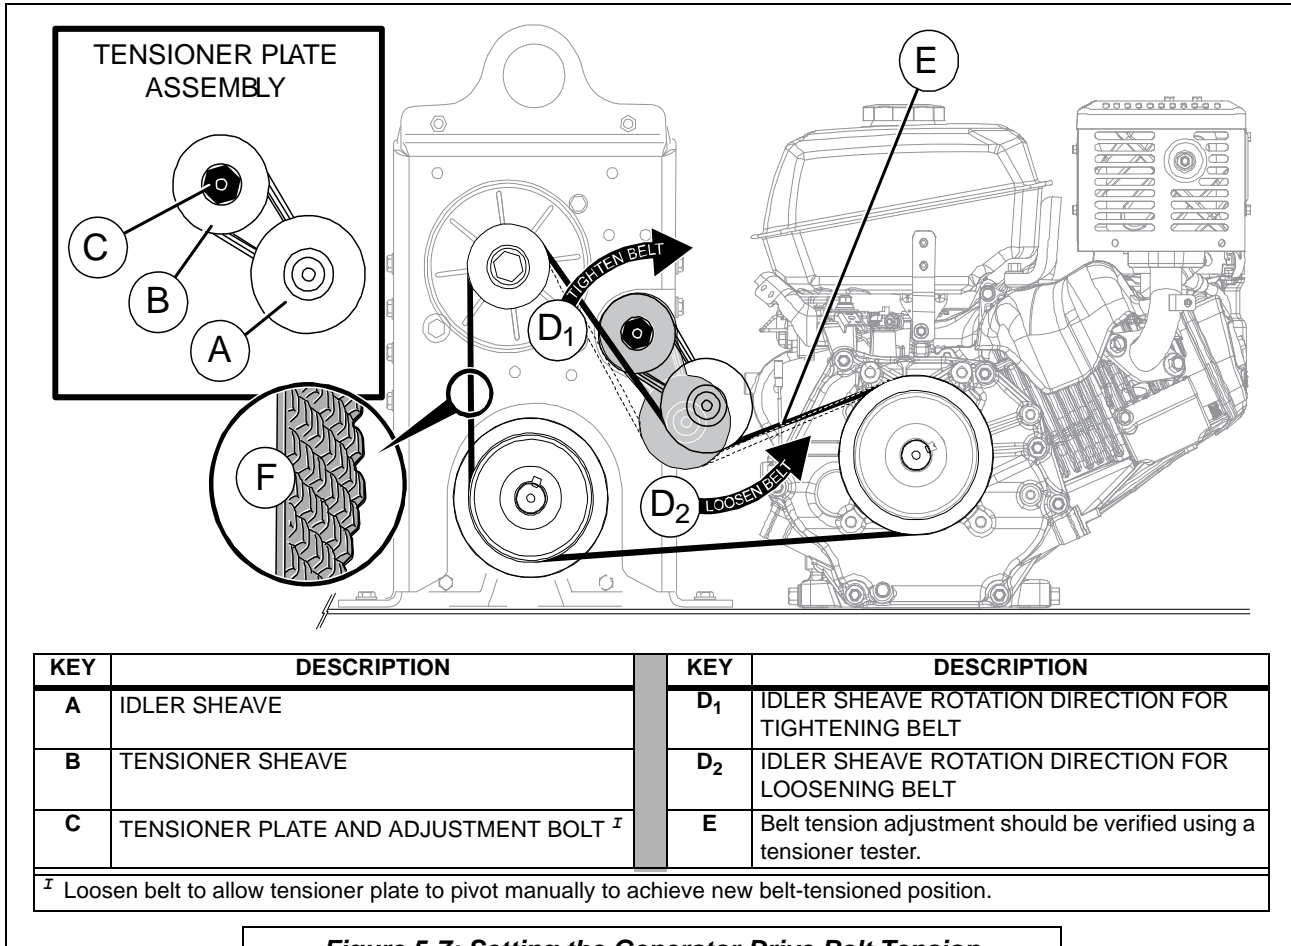

Figure 5-7: Setting the Generator Drive Belt Tension
To re-tension the generator serpentine belt, consult **Figure 5-7**. Once the generator drive belt is established onto the engine, generator and idler pulleys the spring tensioner on the
To replace the generator serpentine belt, refer to **Figure 5-7** and the following procedure:
By loosening the tensioner plate bolt (item [C] in **Figure 5-7**), and pivoting the generator idler sheave assembly to its maximum position, the generator belt will be loosened enough to remove it from the generator and engine drive pulleys.
3. Run a new serpentine belt into place about the generator, engine and idler pulleys as shown in **Figure 5-7**. Keep in mind when tracking the belt that the tread-side faces the inside of the driver pulleys, as shown in item [F].